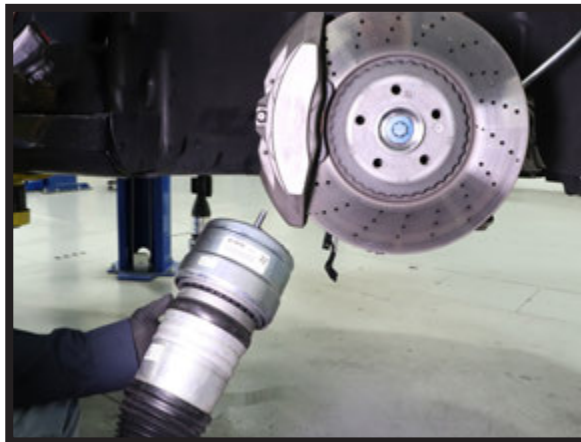

FIGURE 17
13. CAREFULLY REMOVE THE STRUT ASSEMBLY. (FIGURE 17)